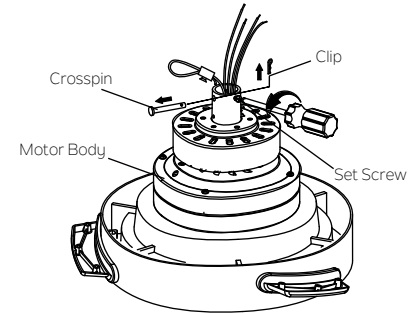

Fig. 5
Step 1. Remove the clip, cross pin and two set screws from the top coupling of the motor body, and save for later use on step 4. (Fig. 5)